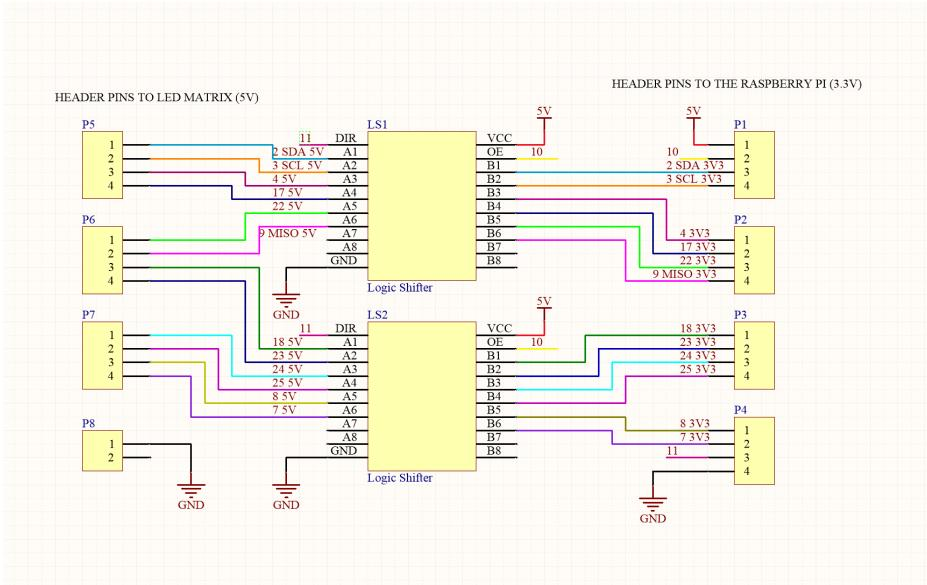
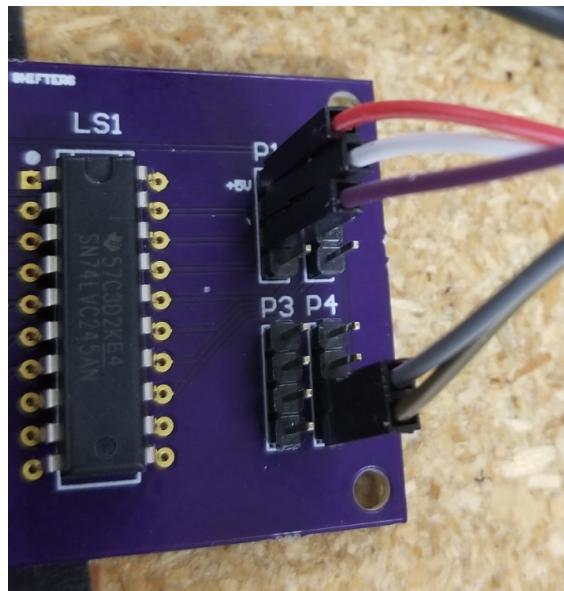

Figure 16: Logic Shifter schematic
Figure 19: Board Connections
In Figure 16 the wire labels correspond to the name of the GPIO pin the signal comes from on the raspberry pi. All pin numbers that lead to the Raspberry Pi represent **GPIO pin numbers, NOT physical pin numbers**. For instance, for header P2, pin 1 is labelled with "4 3V3". This should be connected to **GPIO pin 4** on the **Raspberry Pi (physical pin 7)**. The data sheet for the logic shifter IC chip can be found at:
2. Now, you will need to run connections to the board from the Raspberry Pi. Figure 16 shows which pins on the board are connected to which pin on the Raspberry Pi, with the exception of the purple wire, which will be using to test the signals and drive it from the 3.3V DC power pin on the Raspberry Pi. Figure 19 shows which of these we will need to start connecting the board to test.
6. Repeat this process for the rest of the pins, following along with the circuit diagram in Figure 16, making sure each channel of the shifter is working correctly.